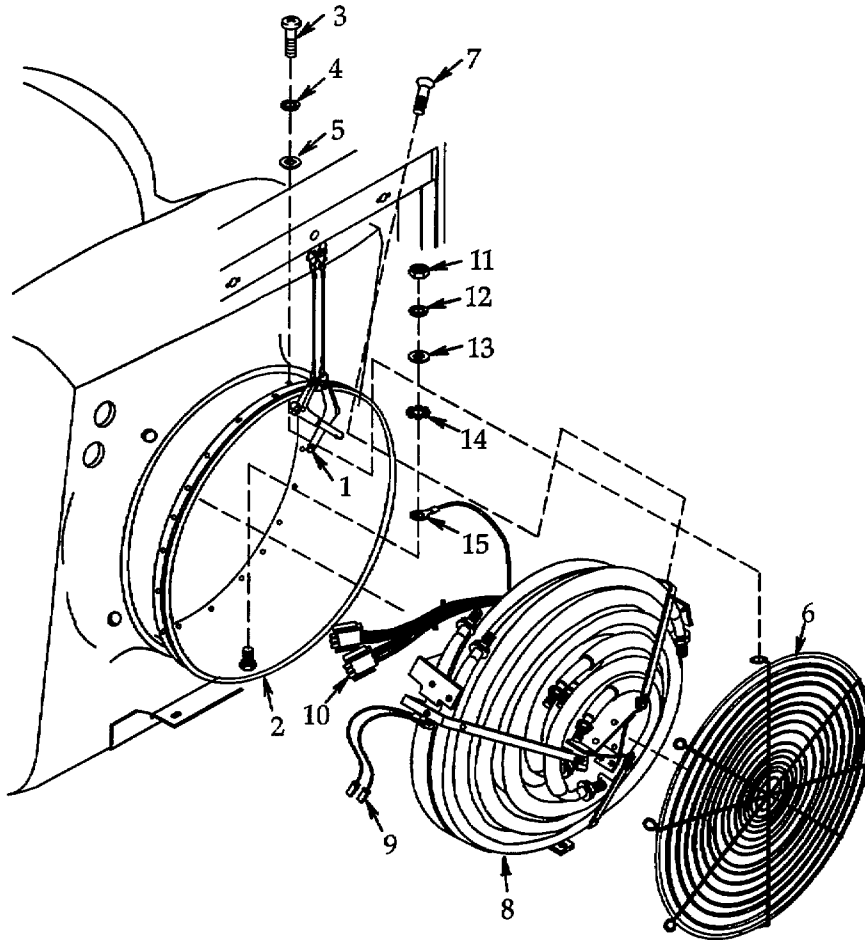

Figure 4-45. Heater Assembly.
- a. **Removal.** See figure 4-45.
- (1) Shutdown the FDECU per paragraph 2.4 and disconnect it from power source.
- (2) If duct is attached, remove per paragraph 4.57.
- (3) Remove supply panel per paragraph 4.25.
- (4) Pull quick release pin (1) if installed.
- (5) If heater barrel (2) is pushed in, pull it out to operating position.
- (6) Remove eight screws (3), lock washers (4), and flat washers (5). Remove finger guard (6). Discard lock washers.
- (7) Remove three screws (7). Carefully pull heater assembly (8) out as far as wire leads will allow and support as necessary.
- (8) Tag and disconnect high temperature cutout leads (9).
- (9) Tag and disconnect heat bank leads (10).
- (10) Remove nut (11), lock washer (12), flat washer (13), lock washer (14), and ground terminal (15). Discard lock washers. Heater assembly (8) may now be removed.
- b. **Installation.** See figure 4-45.
- (1) Support heater assembly (8) near heater barrel (2) as necessary to connect wire leads. Install ground terminal (15), new lock washer (14), flat washer (13), new lock washer (12), and nut (11).